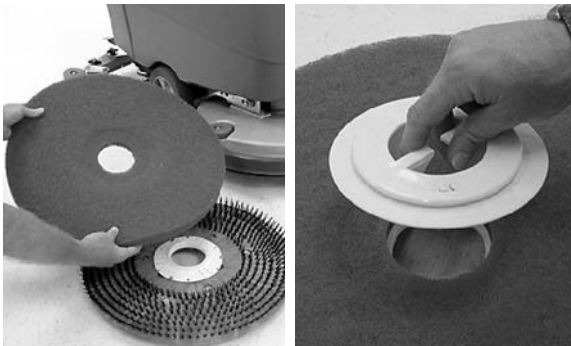

FIG. 7
3. Attach the pad to the pad driver before installing the driver (Figure 7). Secure pad with centerlock.